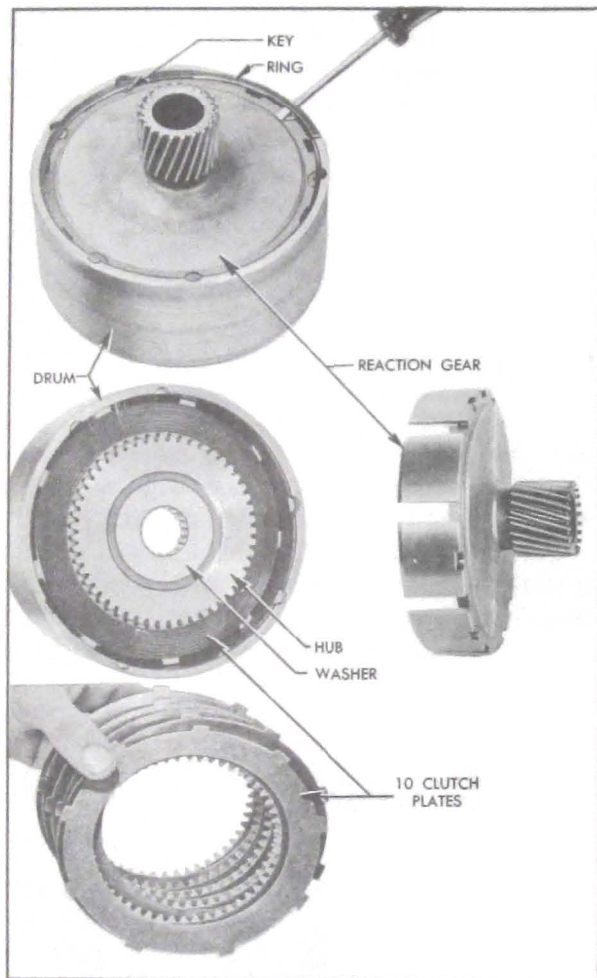

Figure 5-72—Removal of Reaction Gear, Hub, and Plates
1. Remove reaction gear flange retainer ring with screwdriver and remove the 6 flange driving keys with pointed tool. See figure 5-72.
2. Remove the low range reaction gear, thrust washer, clutch hub, and 10 clutch plates from drum. See figure 5-72.